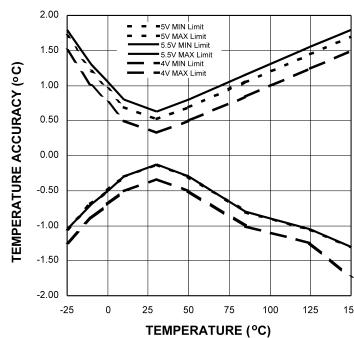
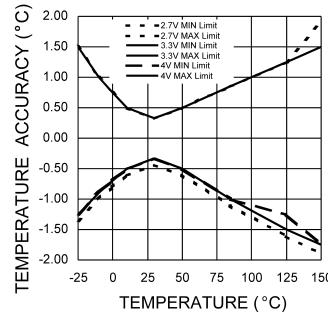

Figure 2. Accuracy vs Temperature with $+V_S = 5V$
Figure 3. Accuracy vs Temperature with $+V_s = 3.3V$
- (1) Typical values are at $T_A = 25^\circ C$ and represent most likely parametric norm.
- (2) Limits are guaranteed to TI's AOQL (Average Outgoing Quality Level).
- (3) The limits found in Table 1 supersede the limits shown in the Electrical Characteristics Table. The Accuracy specification includes errors due to linearity, offset and gain. The accuracy specification includes effects of self heating with negligible digital output loading. Pull-up resistors should be maximized (10k typical recommended), so that self heating due to digital output loading is negligible.
- (4) Limits at intermediate temperatures can be calculated using a straight line interpolation as shown in Figure 2 and Figure 3.
- (5) Linearity Error is defined as the worse case difference of an actual reading to that of a calculated reading derived from the straight line whose endpoints are measured at $30^\circ C$ and $125^\circ C$ for the range of $30^\circ C$ to $125^\circ C$ or whose endpoints are measured at $30^\circ C$ and $-25^\circ C$ for the range of $30^\circ C$ to $-25^\circ C$.
- (6) Offset Error calibration should be done at $30^\circ C$. The residual error of the transfer function is then equivalent to the Accuracy Limit minus the Offset Limit. This does not take into account the power supply sensitivity of the offset error. Nor, does it take into account the error introduced by the calibration system used.
- (7) This specification is provided only to indicate how often temperature data is updated. The LM92 can be read at any time without regard to conversion state (and will yield last conversion result). If a conversion is in process it will be interrupted and restarted after the end of the read.
- (8) 12 bits + sign, two's complement
- (9) Default values set at power up.